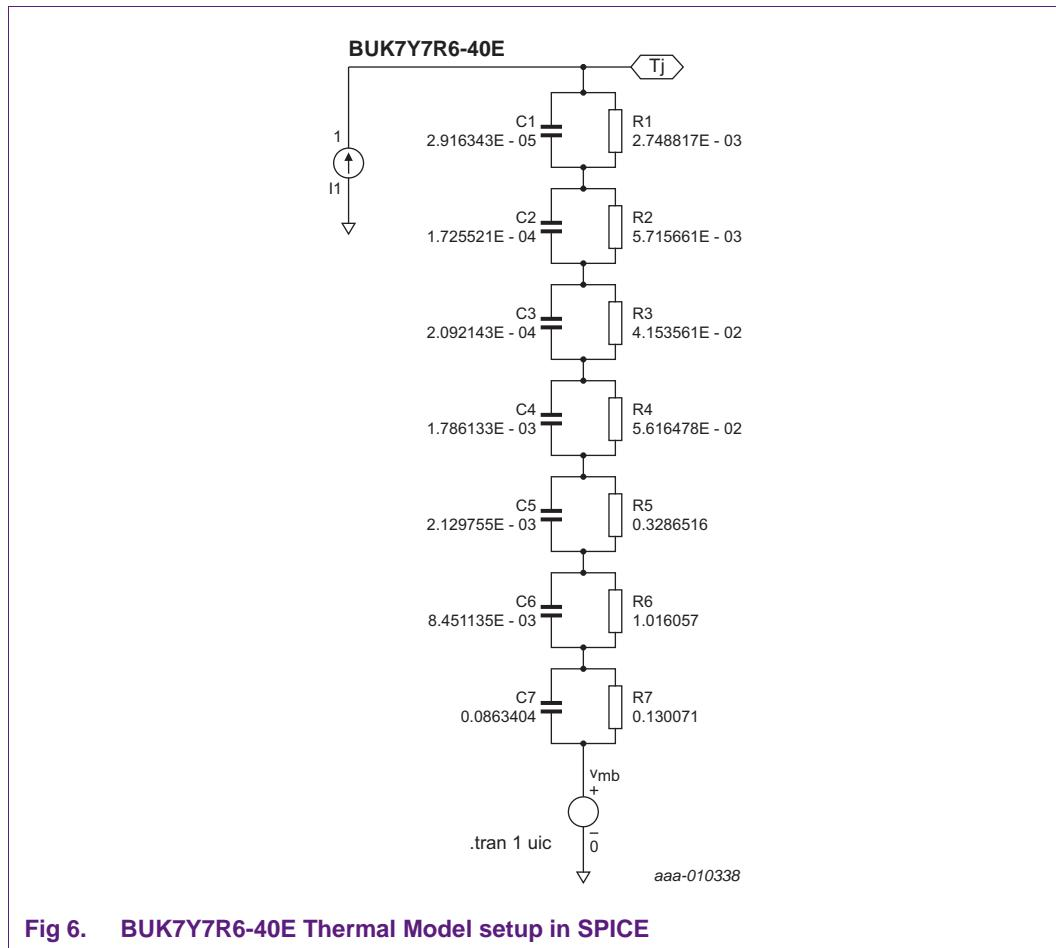

Fig 6. BUK7Y7R6-40E Thermal Model setup in SPICE
1. set up the RC thermal model of BUK7Y7R6-40E in SPICE as shown in Figure 6